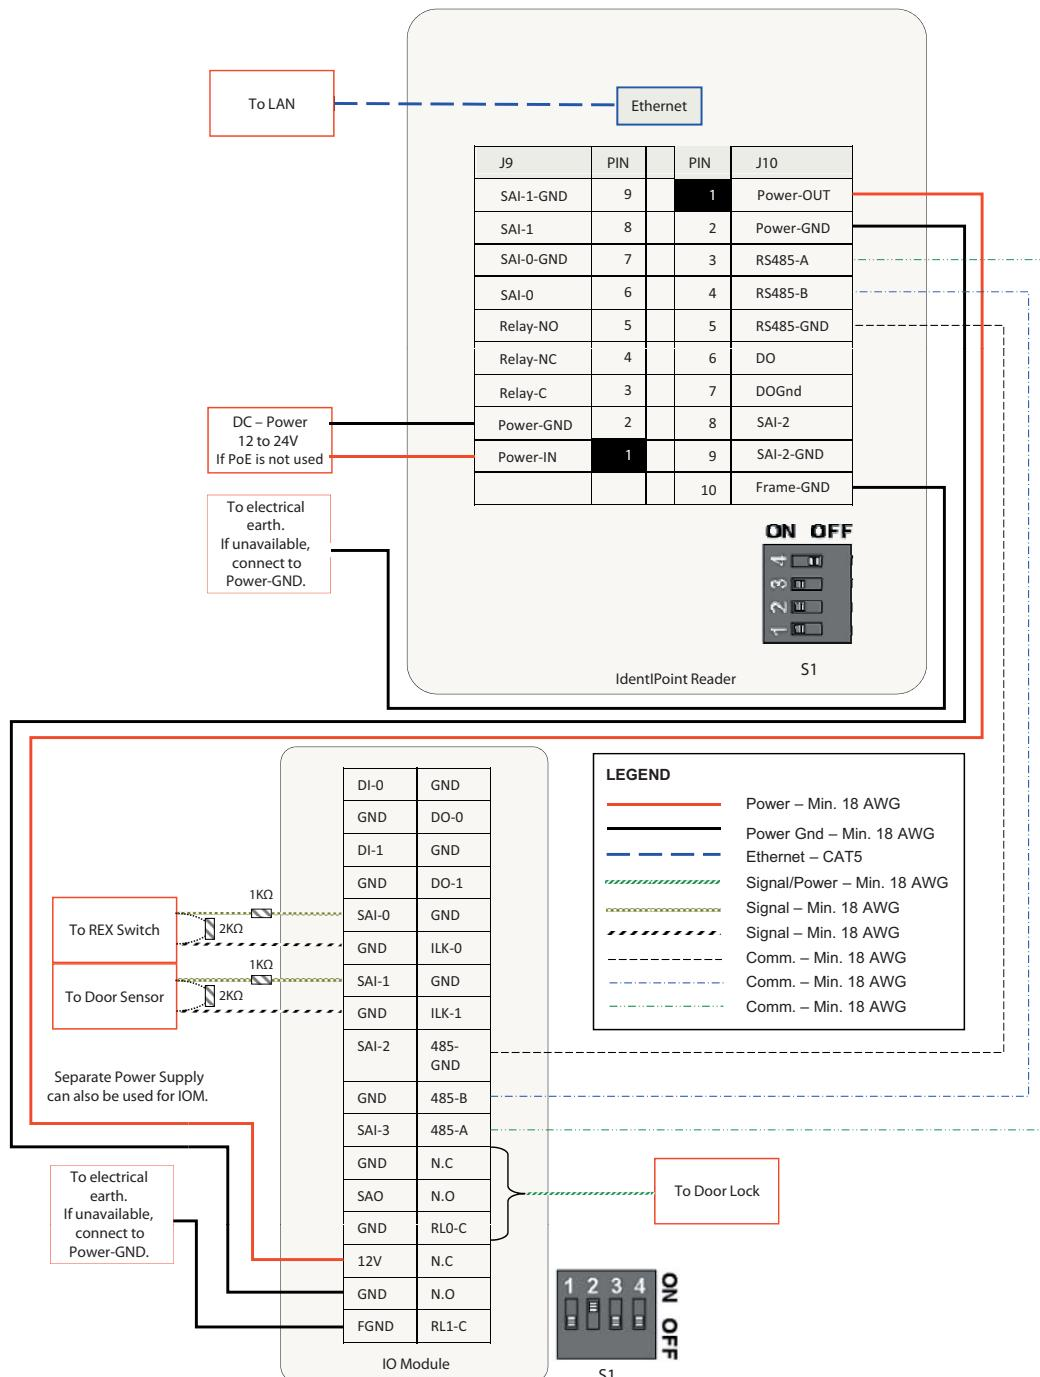

Fig. 22. Connections for single reader with REX and IOM (S1 DIP switch settings shown)
4. To power the IOM, plug the terminal block into the J1 port of the IOM such that the wires connected to the +ve and -ve pins of the power supply, connect with the pins for DC-IN and GND of the J1 port. The IOM may also be alternatively powered through an IdentPoint reader (see Fig.22).